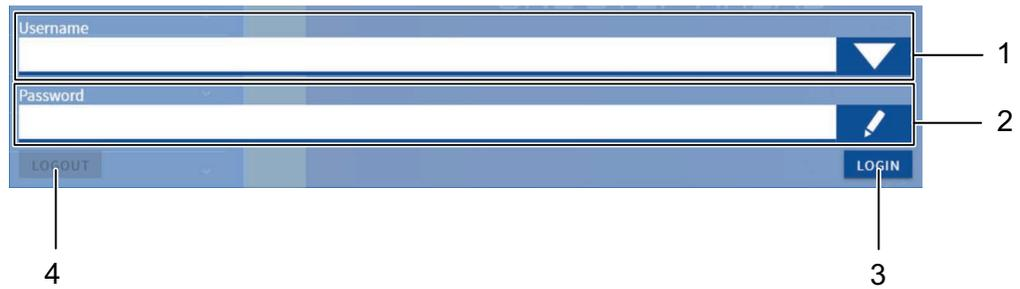

Fig. 39: User login window
- The user login window opens (see fig. 39)